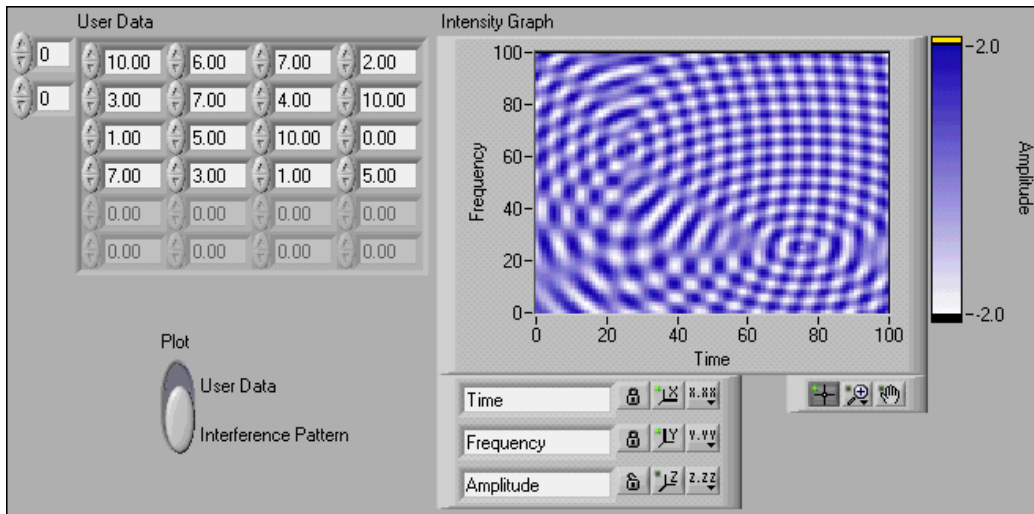

Figure 5.29
1. Open and run the Intensity Graph Example (Figure 5.29) VI located in the `C:\Exercises\LabVIEW Basics I` directory. By default, the VI plots an interference waveform. A `Property Node` on the block diagram defines the color range used in the intensity graph. You can change the color range by opening the block diagram and modifying the `Color Array` constant.